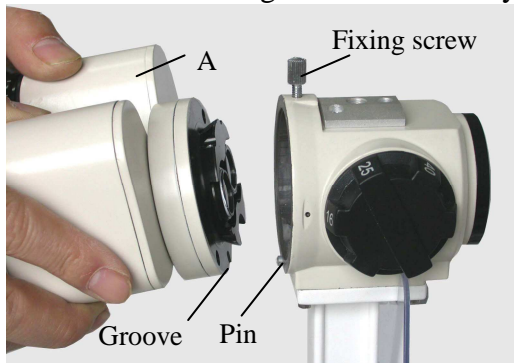

Fig.8
- ✧ Remove four screws attached to the rail with the screwdriver (O).
- ✧ Place the rail cover (F) to the rail, and retighten the previously removed screws.
5) Assembling the binocular tube (A)
- ✧ Match the groove on the binocular tube with the pin on the microscope body (Fig.8).